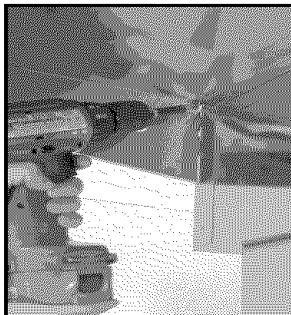

Fig. 10
2. Lock the shelves in place by inserting (2) self tapping screws into each shelf. (See Fig. 10)